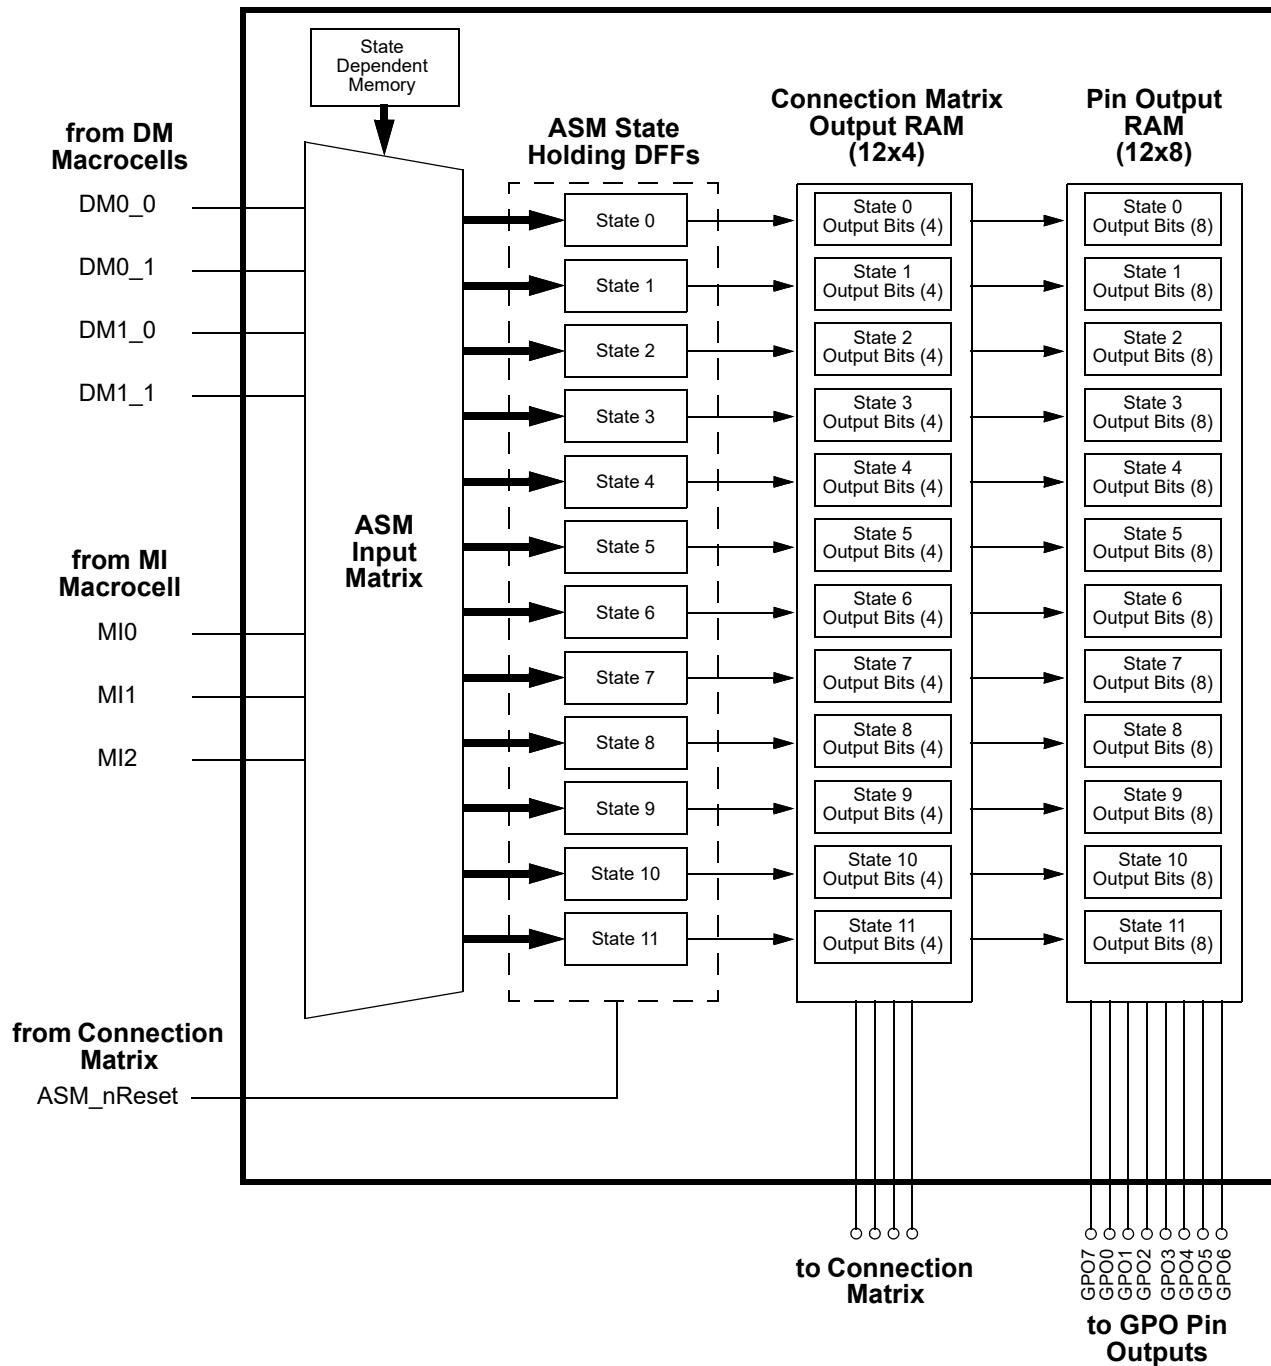

Figure 108: 12 State ASM Macrocell
The ASM macrocell has a total of 8 input signal lines, as shown in Figure 108, which come from a combination of three Matrix Interface (MI) macrocell outputs and DM macrocell outputs. Of these 8 inputs, 3 are user selectable inputs coming from the three Matrix Interface (MI) macrocells (one per macrocell) to the ASM macrocell. There are also 4 inputs that come from the DMx_X macrocells (one per macrocell). There is 1 ASM_nReset input that is for driving a state transition in the ASM macrocell to a user defined Initial/Reset state.
The GPAK Designer development tools support user designs for the ASM macrocell at both the physical level and logic level. Figure 108 is a representation of the user design at the logical level, and Figure 108 shows the physical resources inside the various macrocells in the ASM Subsystem. To best utilize this subsystem, the user must develop a logical representation of their desired state machine, as well as a physical mapping of the input and outputs required for the desired functionality.
The ASM macrocell has a total of 8 input signal lines, as shown in Figure 108, which come from a combination of Connection Matrix outputs and DM macrocell outputs.